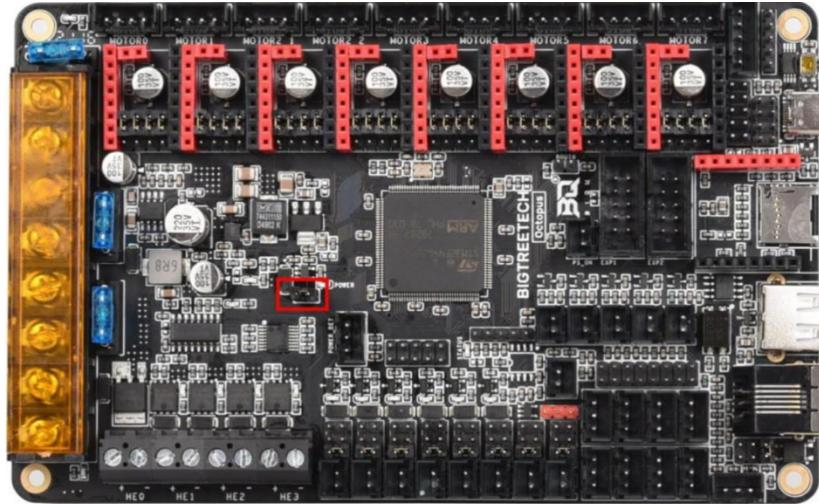

Figure 4: USB-C power enable jumper boxed in red.
- Ensure a jumper is connected as shown in Figure 4. This enables the Octopus board to be powered via USB-C as opposed to exclusively through the screw terminals. This makes uploading firmware more convenient.